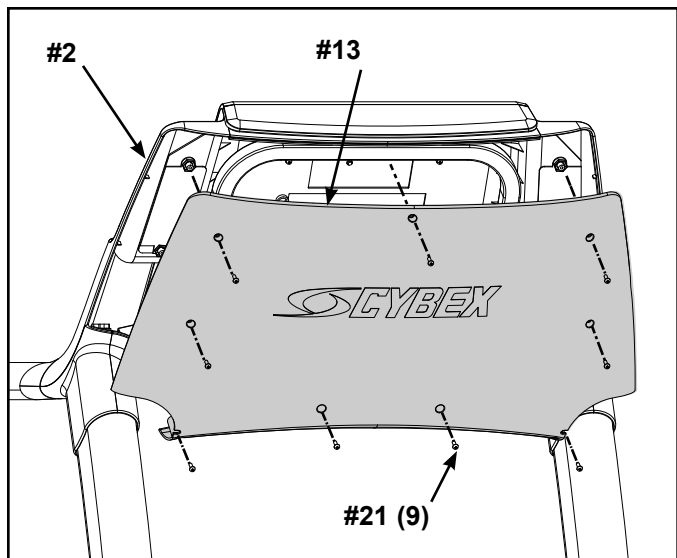

Figure 8
- A. Locate the back console cover (#13) and nine screws 8/16 x .50" (#21). See Figure 8.
- B. While being sure not to pinch any cables, use a Philips screwdriver to secure the nine screws 8/16 x .50" (#21) that hold the back console cover (#13) to the console assembly (#2). See Figure 8.